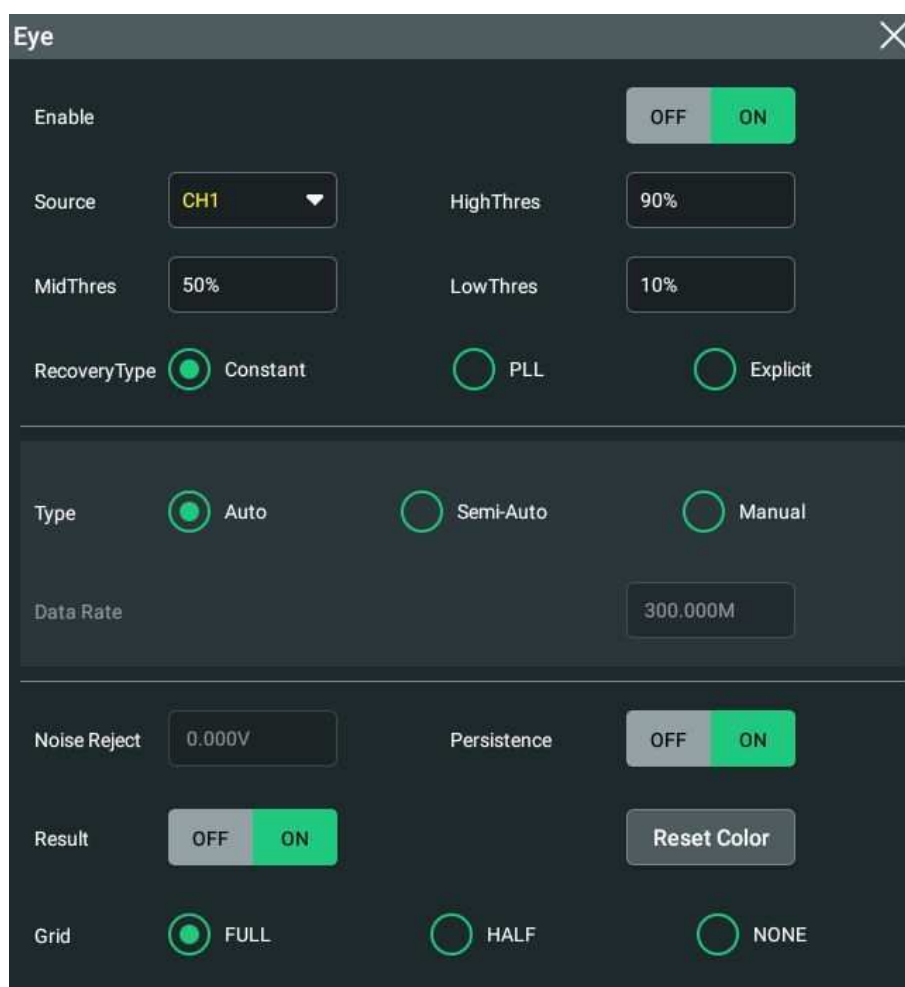

Figure 12.1 Eye Diagram Setting Menu
- Click or tap **Setting**, then the eye diagram menu is displayed, as shown in *Figure 12.1*